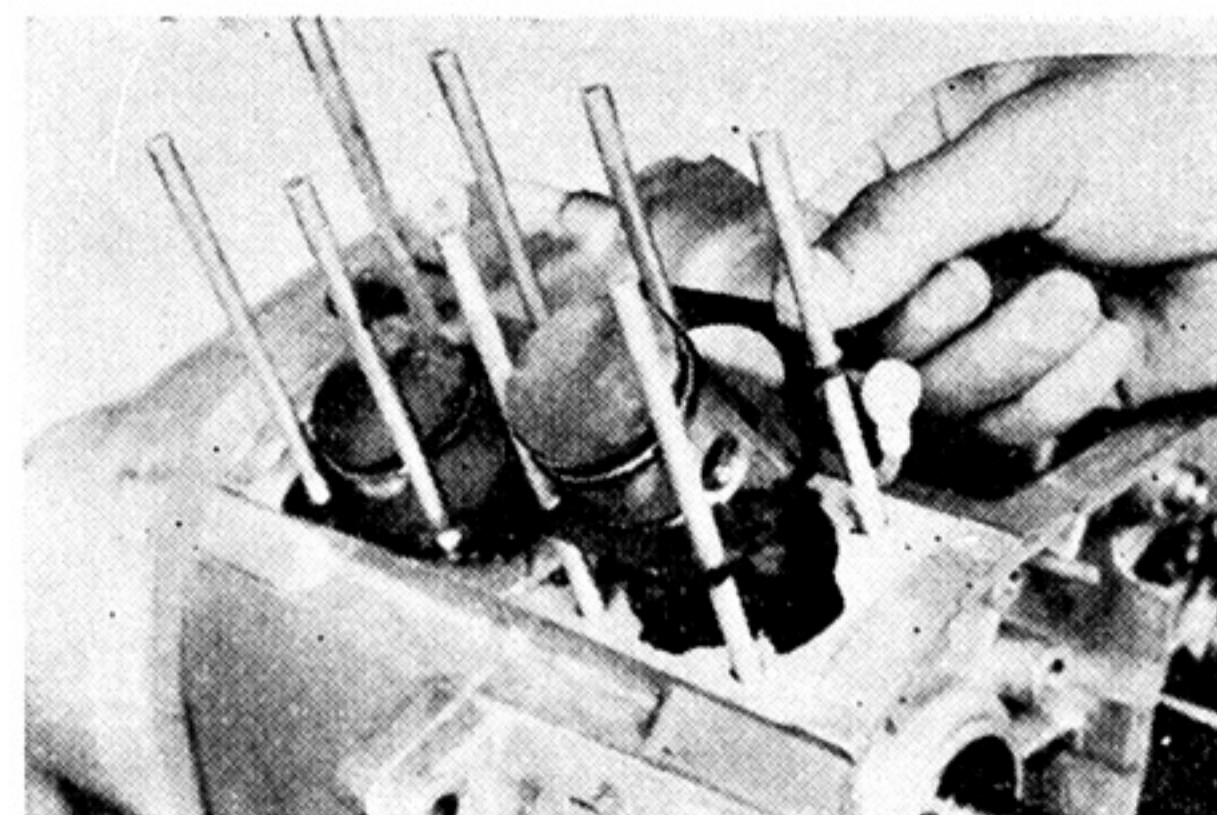

Fig. 3-3-4
- Always use new cylinder gaskets when overhauling the engine. (Fig. 3-3-4)